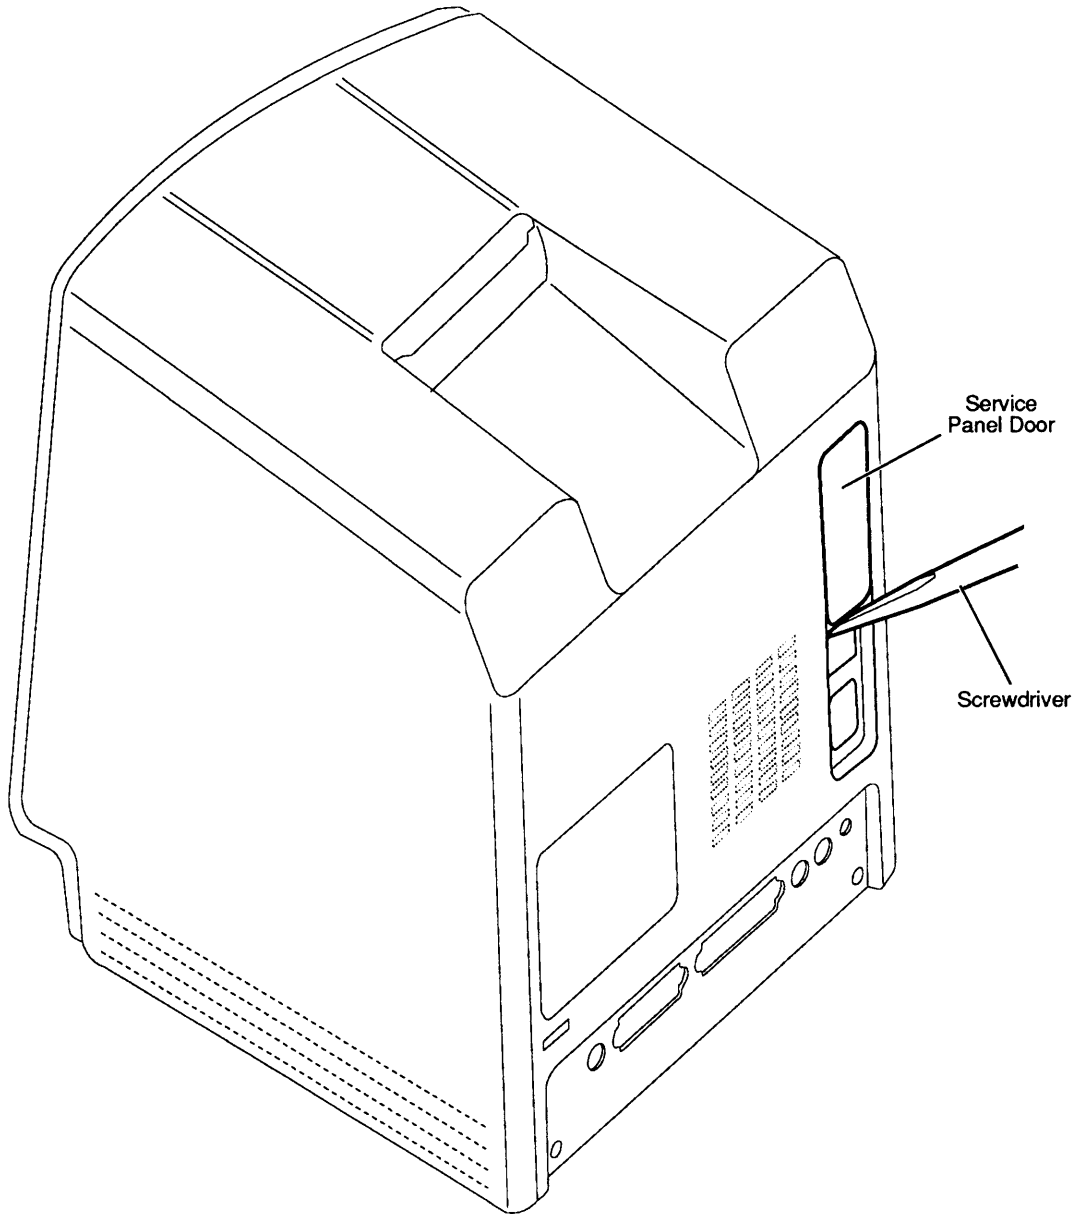

Figure 3-1 Service Panel Door
3. Use a small, flat-blade screwdriver to depress the center tab at the bottom of the service panel door; then lift out the door (**Figure 3-1**).